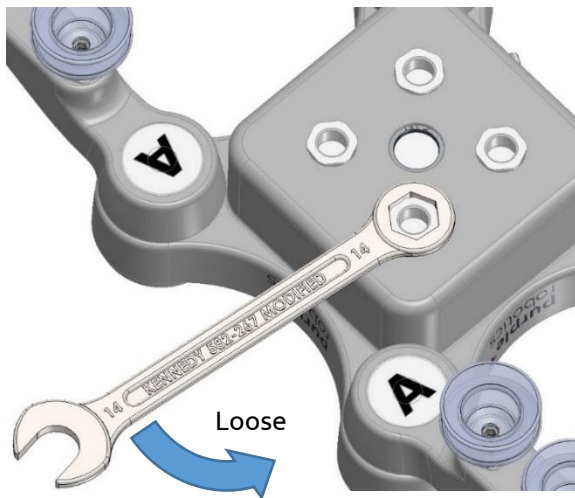

Figure 1.4: Removal and tightening of filter.
1. Use the 14 mm spanner to unscrew the 16 Filter Fixing Fittings, see figure 1.4